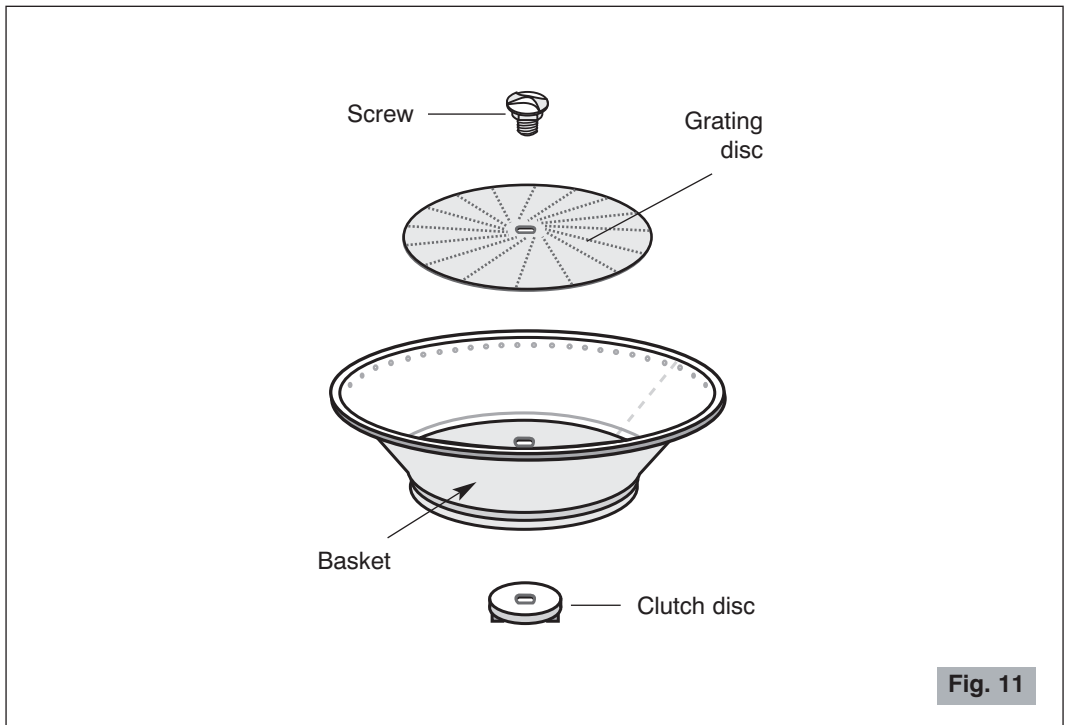

Fig. 11
-  **For a periodic deep-cleaning** you can disassemble the parts of the basket by unscrewing the clutch disc (Fig. 11).
- Reassemble in reverse order (Fig. 11) making sure that the parts are tightly attached to one another.